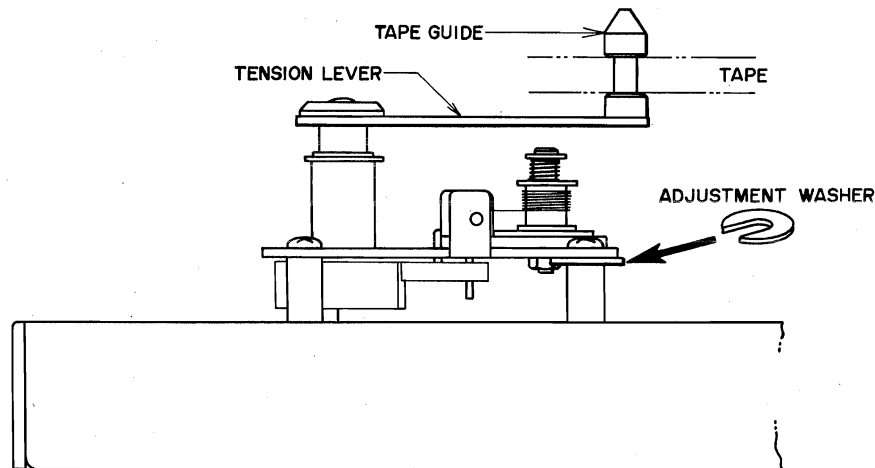

Fig. 15
7. TENSION LEVER HEIGHT ADJUSTMENT (Refer to Fig. 15)